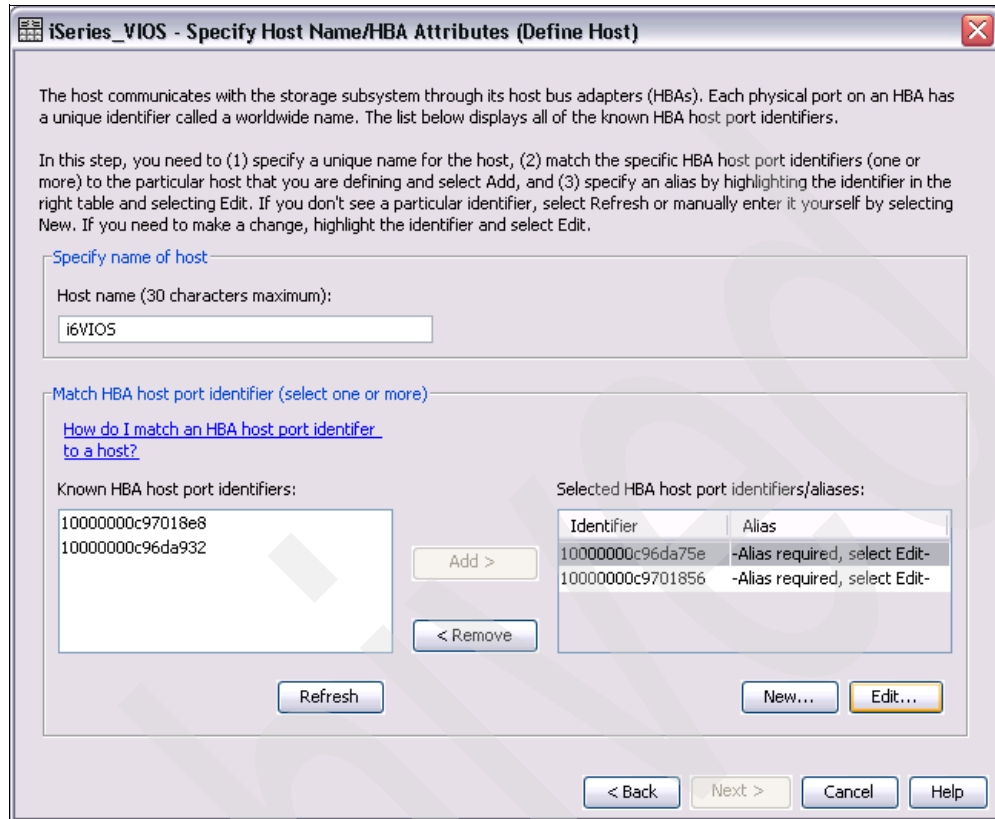

Figure 7-66 DS Storage Manager Specify Host Name/HBA Attributes dialog after adding WWPNs
- Our selected WWPNs from our VIOS partition got added to the Selected HBA host port identifiers/aliases list box and we select **Edit** to proceed, as shown in Figure 7-66.